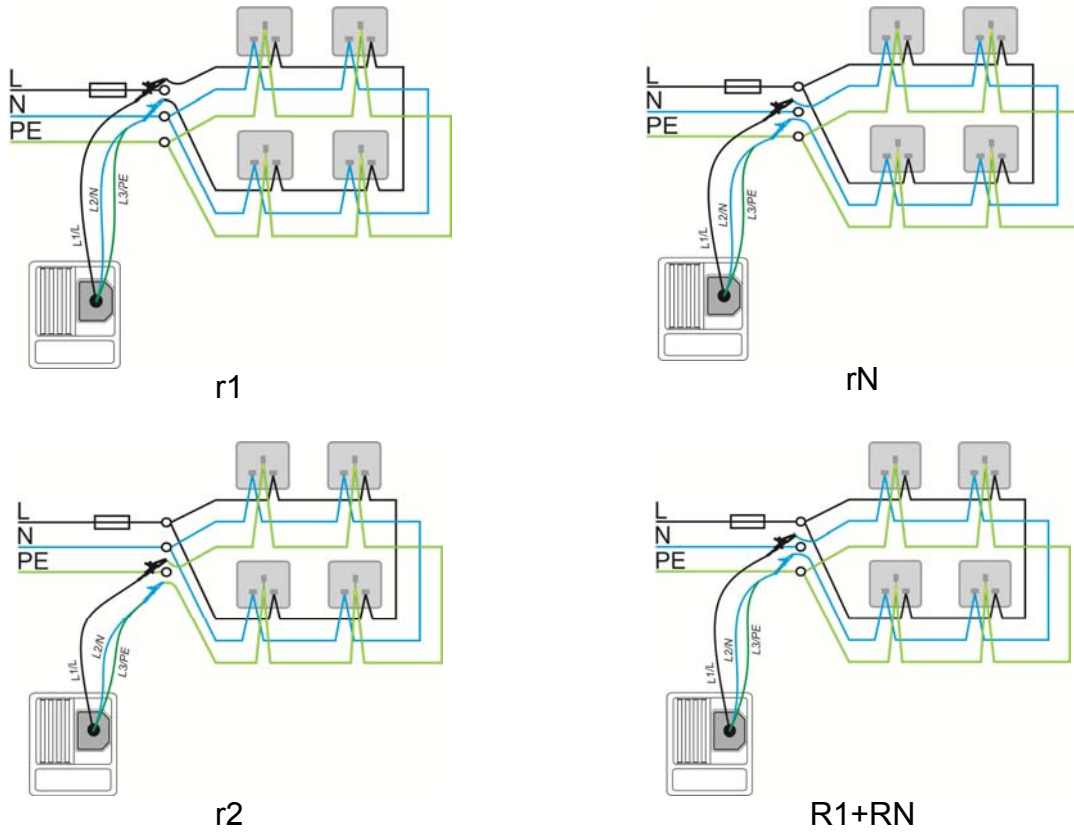
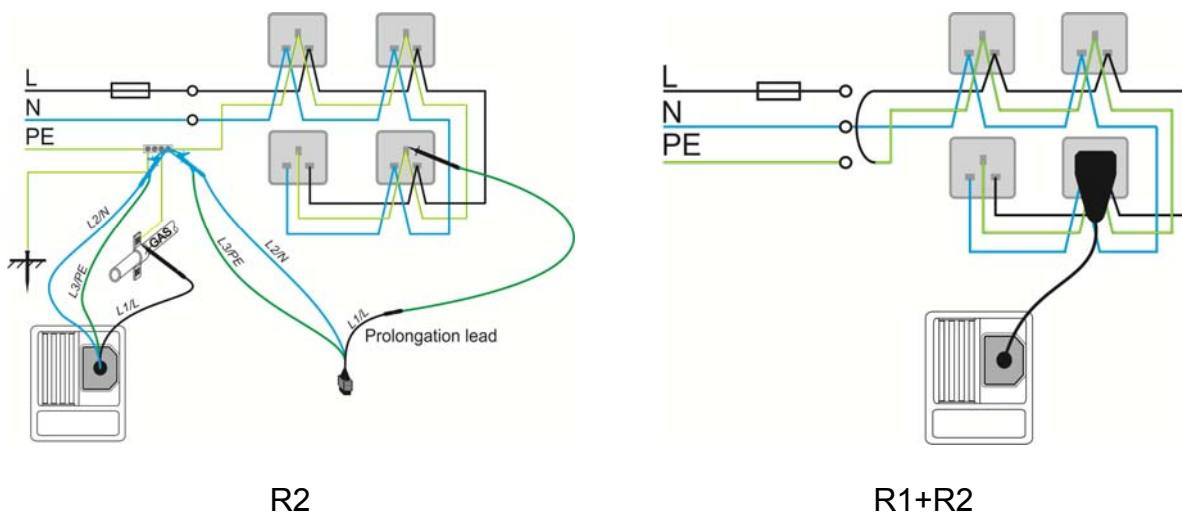

Figure 5.10: Connections for testing the r1, rN, r2 and R1+RN sections of the wiring in ring circuits
Figure 5.11: Connections for testing the R2 and R1+R2 sections of the wiring in final circuits
- ❑ **Connect** the test leads to the appropriate PE wiring (see *Figure 5.10* and *Figure 5.11*:).